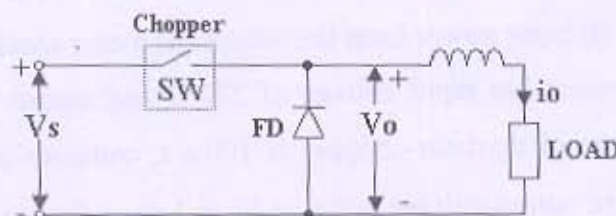

Figure 1
- (b) For the basic dc to dc converter of Figure 1, express the following variables as functions of V_s , R and duty cycle α in case load is resistive. [07]